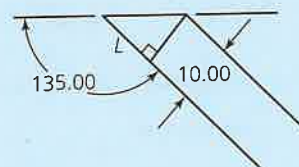

Figure 4.3 End of diagonal brace
Step 3: Both ends of the brace are cut to the same angle of 45° . Sketch one end of the brace and add the known dimensions to help you. An example is shown in Figure 4.3. In this sketch, L is the difference between the internal length, i , and the external length, c . Therefore: